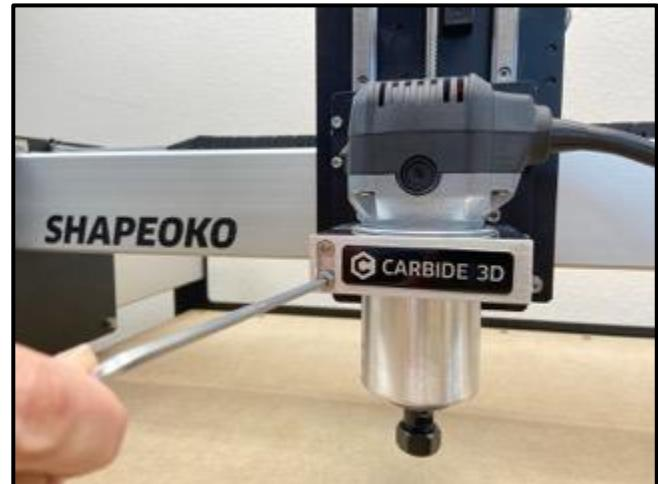

Figure 10-5
3. Use the 4mm hex key to secure the compact router by tightening the two (2) M5x55mm socket head cap screws on the front of the router mount as shown in *Figure 10-5*.